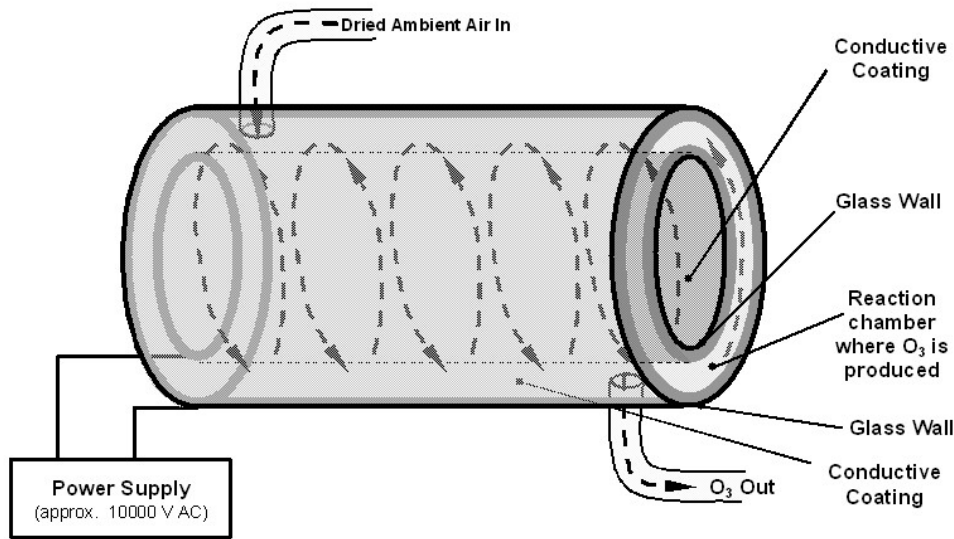

Figure 10-6: Ozone Generator Principle
The TML41 uses a corona discharge (CD) tube for creating its O₃. Corona discharge generation is capable of producing high concentrations of ozone efficiently and with low excess heat. Although there are many cell designs, the fundamental principle remains the same (Figure 10-6).